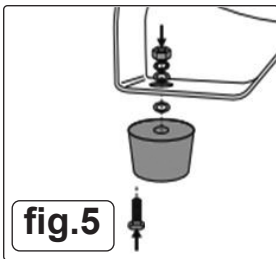

fig.5
4.2.4. With the pressure tank on its side, insert the short bolt and washer through a supporting rubber foot and into the hole in the frame of the tank. Fig.5